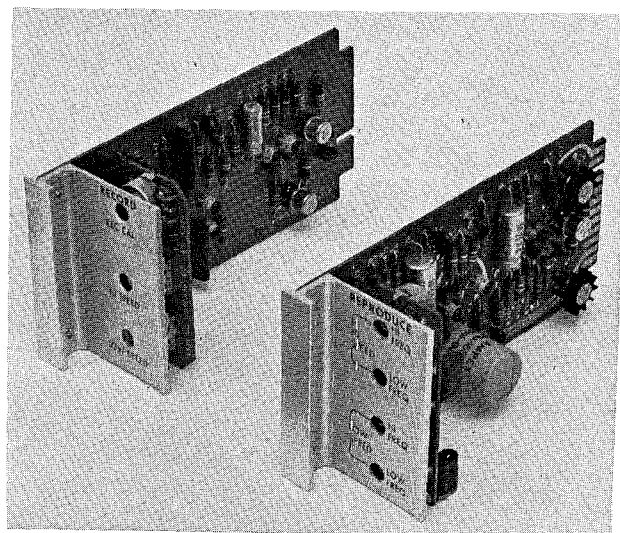

Fig. 2-6. Equalizers, in Position
f. Equalizer circuits are contained on printed circuit boards which plug into connectors at the forward end of the record and reproduce boards (see Fig. 2-6). Check that these boards are in position.